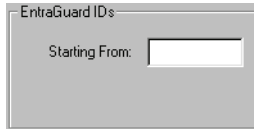

Figure 10-28: Enroll a Block of User IDs with Cards Field
1. To enroll a block of operator assigned User IDs, click on the  button. The Enroll EntraGuard User IDs window will reveal the following field (see Figure 10-28).